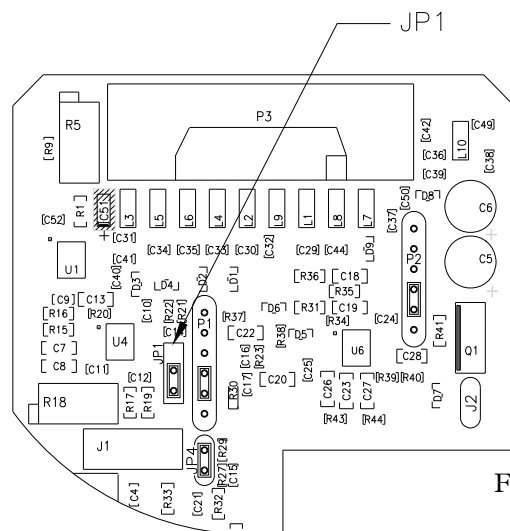

Fig 2.2
2.7.3. Operation with an external sensor. (Fig. 2.2)